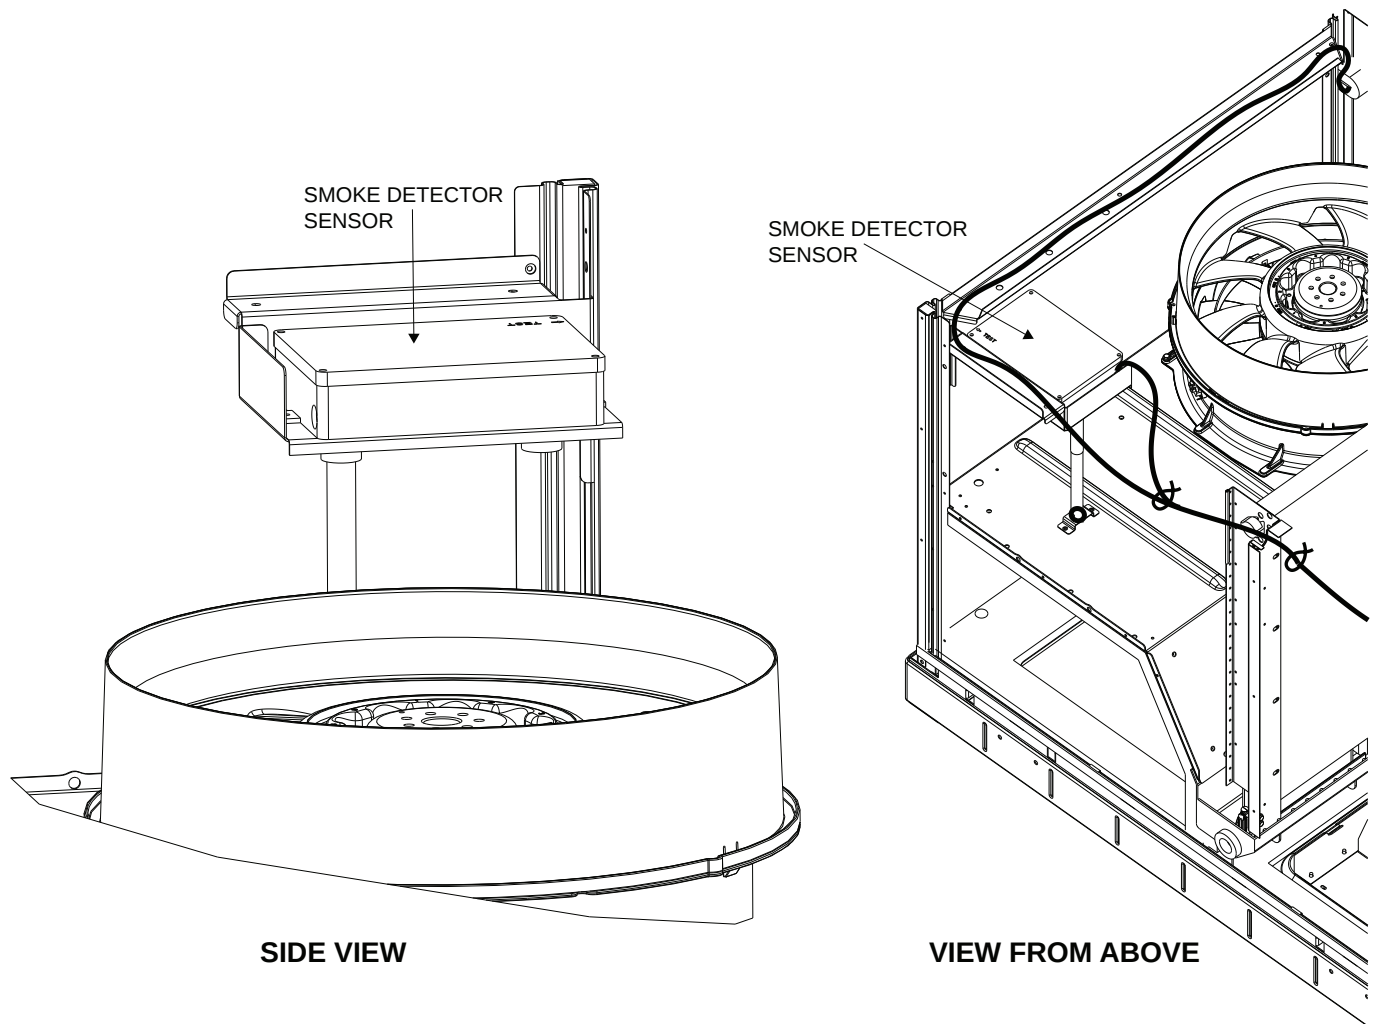

Fig. 16 — Supply Air Smoke Sensor
- c. For 48/50FC, 582K, 559K, 547K, RGV, RAV, RHV, 48/50GC, 581K, 551K, 549K, RGW, RAW, RHW units, use Fig. 16. Remove $\frac{7}{8}$ -in. knockout on the fan deck. Attach the supply smoke sensor to bracket (48TC001810) using two #8 screws and ensure that the intake on the sensor will be aligned over the hole in the fan deck. Then attach the bracket to the corner post with self-tapping screws as shown in Fig. 16. Attach the tube bracket (48TC001809), aligning it over the knockout in the fan deck. Insert the 11-in. pickup tube (48TC002092) to the intake on the sensor by inserting the sampling end with the hole below the fan deck and then inserting the other end into the intake on the sensor. Orient the hole so that it points into the direction of flow.